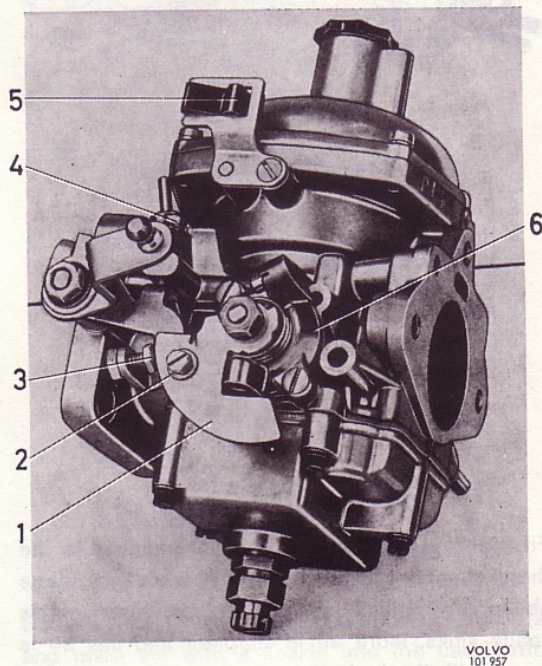
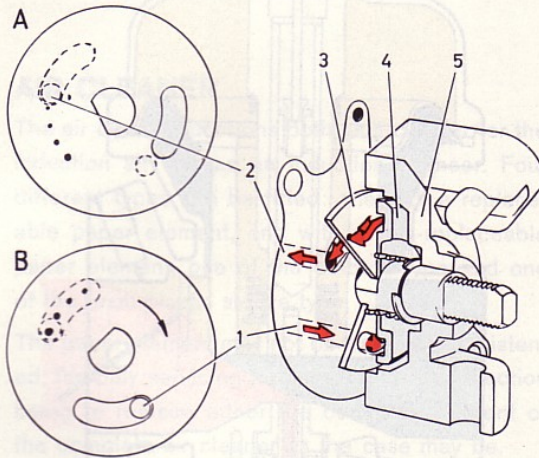

Fig. 70. Carburettor, Stromberg, from the rear
Fig. 72. Cold start device
To facilitate starting during cold weather, the carburettor is provided with a cold start device (Figs. 72 and 73).
The cold start device consists of a valve disc (3, Fig. 72) which is provided with four calibrated
holes and an elongated opening as well as a disc (4) which is provided with a channel and which is fitted on a shaft operated by the choke control. On the same shaft, outside the cover (5) is a choke cam (1, Fig. 70) located with a connection for the pull wire of the throttle control. When the cold start device is engaged, the valve disc turns and this links up the channel (1, Fig. 72) from the floatchamber via one or several of the calibrated holes to the channel behind the valve disc and then the opening to the channel (2), which terminates in the venturi between the vacuum plunger and the choke flap.
Through this link-up, the engine receives extra fuel, a richer mixture, to facilitate cold starting. When the throttle control is moved in, this turns the valve disc and shuts off the inlet to the channel. By means of the choke lever, the valve disc is operated simultaneously with the opening of the throttle flap by means of the fast-idle stop screw (3, Fig. 70) and the lever before any of the calibrated holes open the supply from the fuel channel. With this arrangement, the driver can increase if necessary the idling speed while the engine is being warmed up.